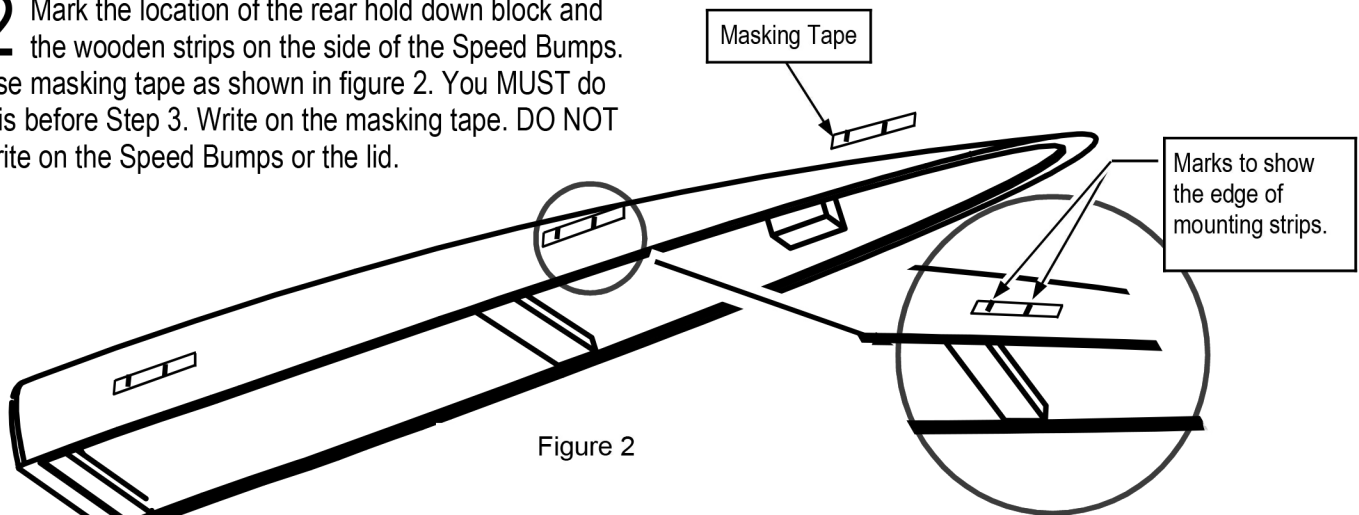

Figure 2
**2** Mark the location of the rear hold down block and the wooden strips on the side of the Speed Bumps. Use masking tape as shown in figure 2. You **MUST** do this before Step 3. Write on the masking tape. **DO NOT** write on the Speed Bumps or the lid.